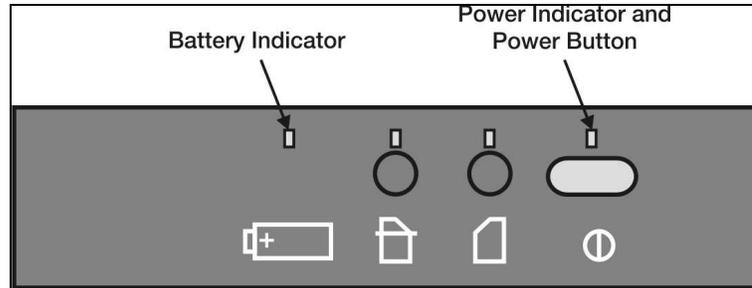

Figure 3-91. Printer Controls
- c. Control station printer (see Figure 3-91). To turn the printer on, simply push the button once. The small indicator light (above the power button) will illuminate if the printer is on. If the printer is running on battery power, the power indicator light (the furthestmost light on the left) will illuminate.